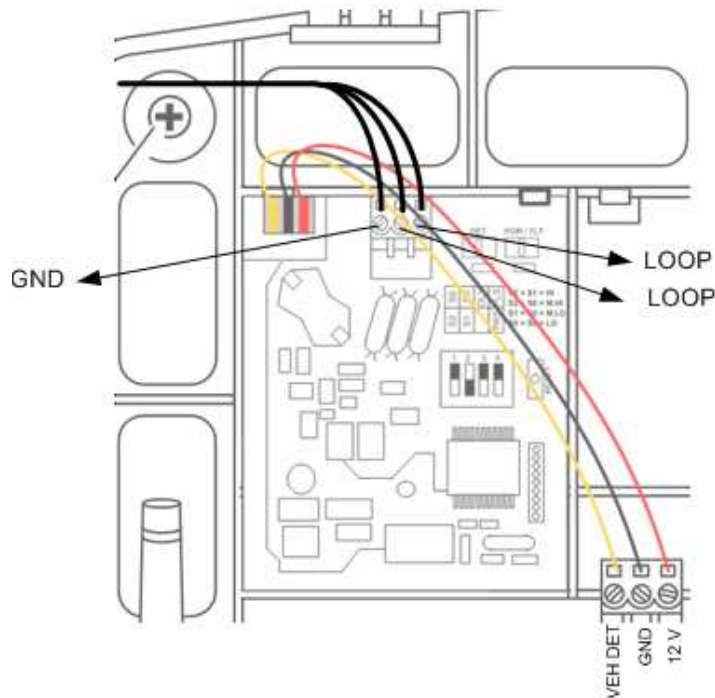

Figure 14
6. Carefully install the three wires between the vehicle detector board and the base station board (see Figure 14). The left-to-right pin order is the same on both boards: the left pin on one corresponds to the left pin on the other.